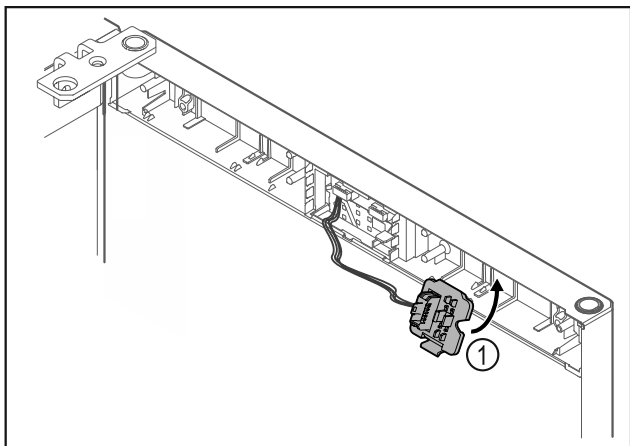

Fig. 22
- ▶ Snap in the plug holder Fig. 22 (1) on the opposite side.